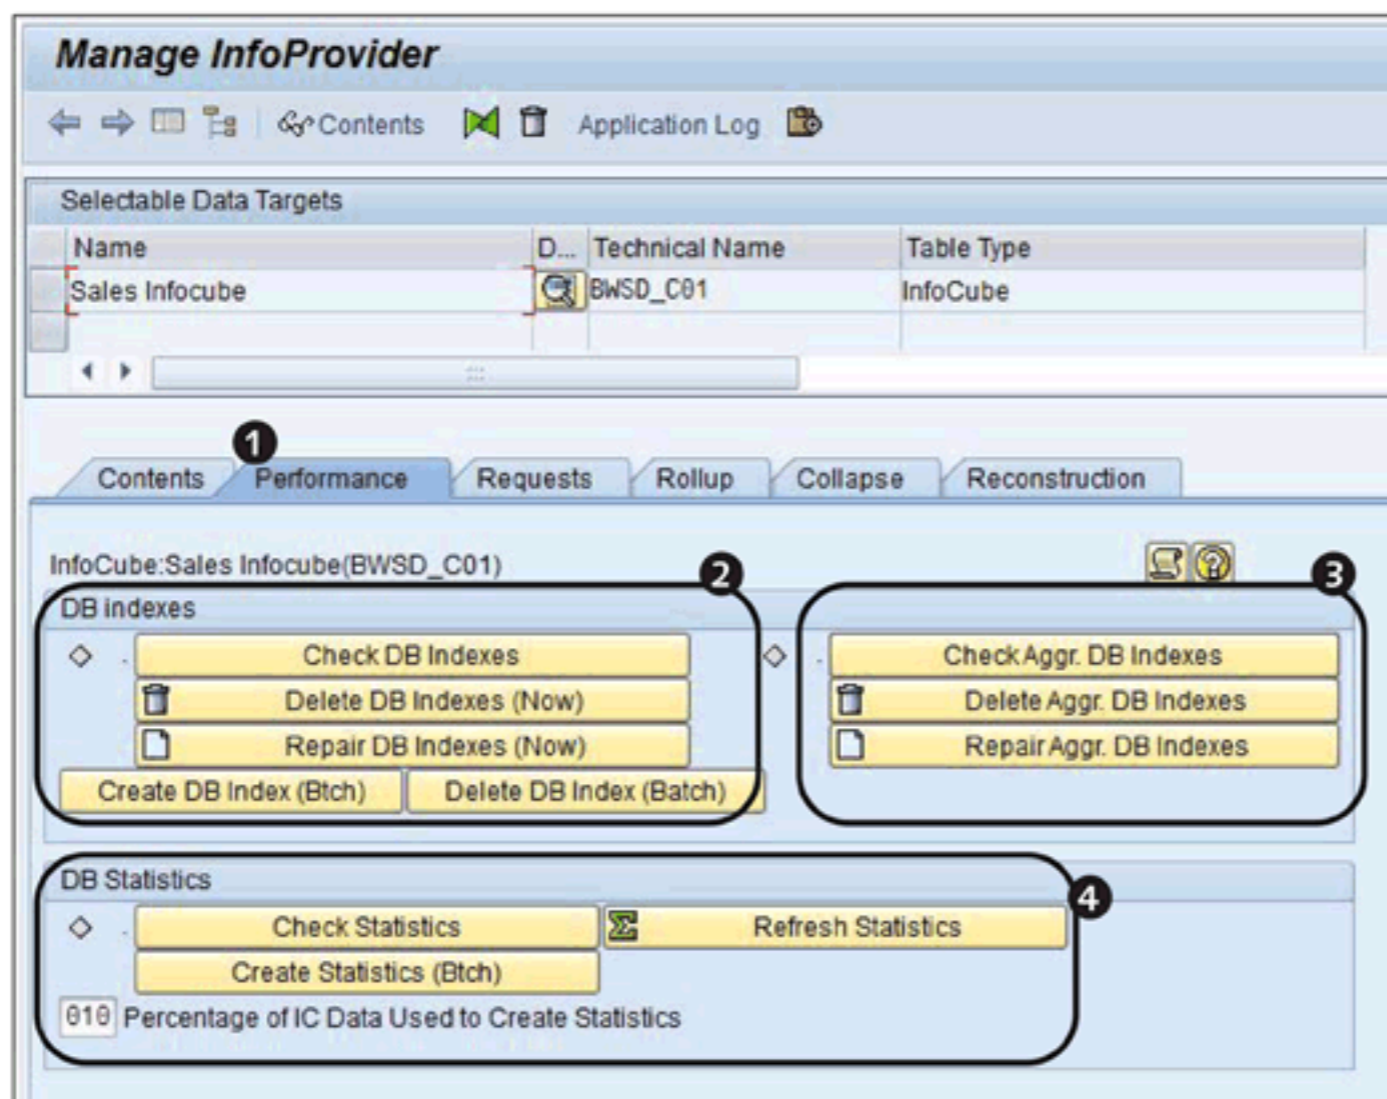

Figure 14.14 Performance Tab for InfoCube Administration
The performance-related settings and actions for an InfoCube are maintained on the PERFORMANCE tab (1 of Figure 14.14). The upper part of the PERFORMANCE tab (2) provides tools to maintain database indexes; the lower part (4) provides tools for managing database statistics. Optimal performance of an InfoCube is achieved by regular maintenance and updating of the indexes and statistics in a database. We discuss both of these topics next.
Using the **CHECK STATISTICS** button (4 of Figure 14.14), you can check whether the database system has statistics for the InfoCube, and whether they are up to date:
You can also control what percentage of InfoCube data should be used to create statistics; normally, it's sufficient to specify only ten percent (4 of Figure 14.14) because the job for creation of statistics consumes a lot of time and resources.